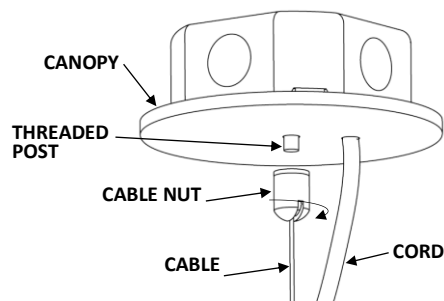

Fig. 6
6. **INSTALL BODY TO CROSSBAR. Fig.6**